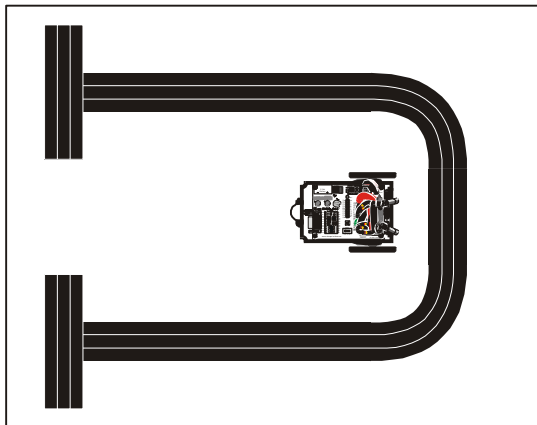
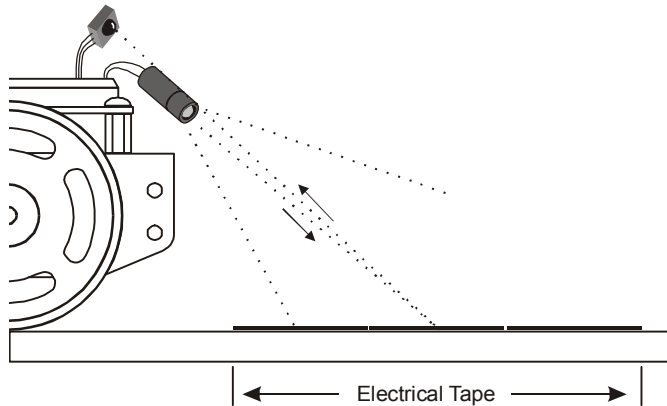

**Figure 8-10**
**Figure 8-11**
- ✓ Place your Boe-Bot so that both IR LED/detector pairs are focused directly at the center of your electrical tape stripe (see Figure 8-10 and Figure 8-11).
If you are unable to get a high zone value when the IR detectors are focused on the electrical tape, take a separate piece of paper, and make a stripe that's four strips wide instead of three. If the zone numbers are still low, make sure that you are using 2 k $\Omega$  resistors (red-black-red) in series with your IR LEDs. You can also try a 4.7 k $\Omega$  resistor to make the Boe-Bot more nearsighted. If none of this works, try a different brand of black vinyl electrical tape. Adjusting the IR LED/detector so that it is focused closer to or further from the front of the Boe-Bot (see Figure 8-11) may also help.